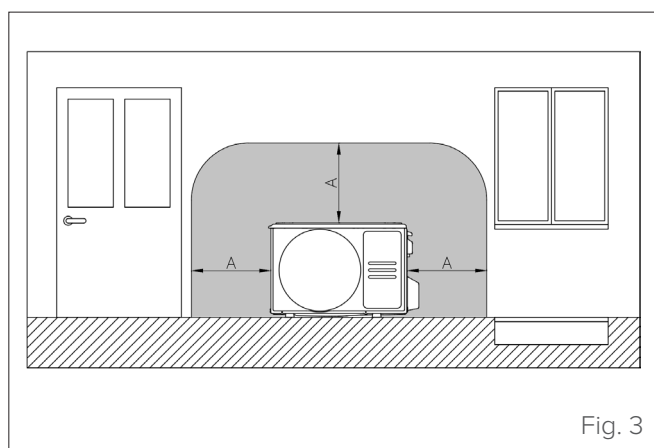

Fig. 3
- the space available for installation must meet the requirements indicated (see “Fig. 3”)